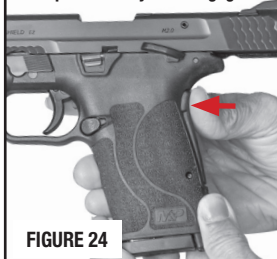

FIGURE 24
- To fire the pistol, the shooter must fully depress the grip safety (FIGURE 23) while holding the pistol. This shows what the grip safety looks like when it is fully depressed (FIGURE 24).